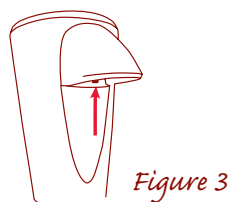

Figure 3
3. To Remove the Shaving Paddle, press the button located underneath the Ice Chute. If the button cannot be pressed, rotate the Shaving Paddle for a half turn and retry (Figure 3).